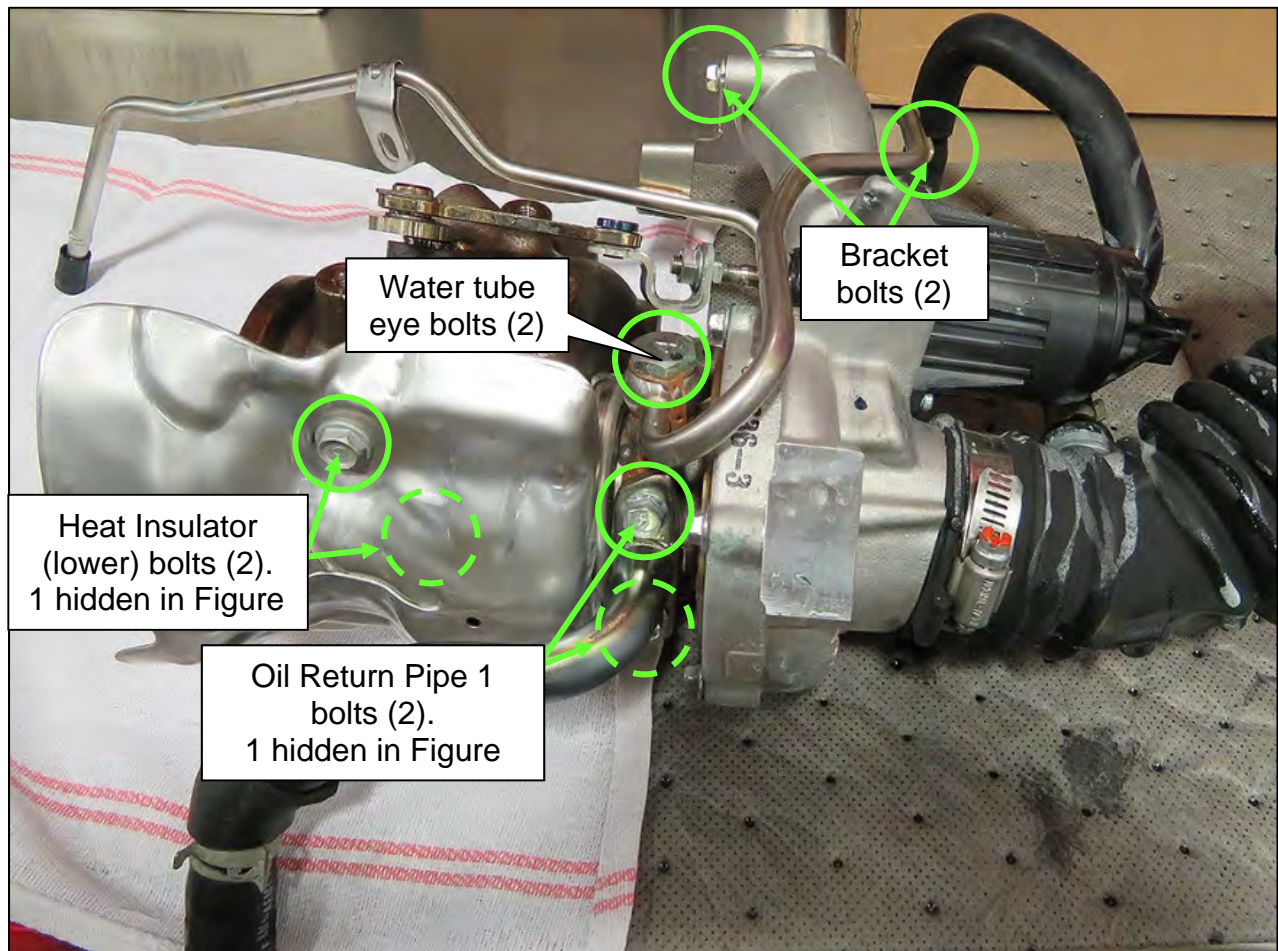

Figure 55
HINT: One (1) Water tube eye bolt is hidden in Figure 55.